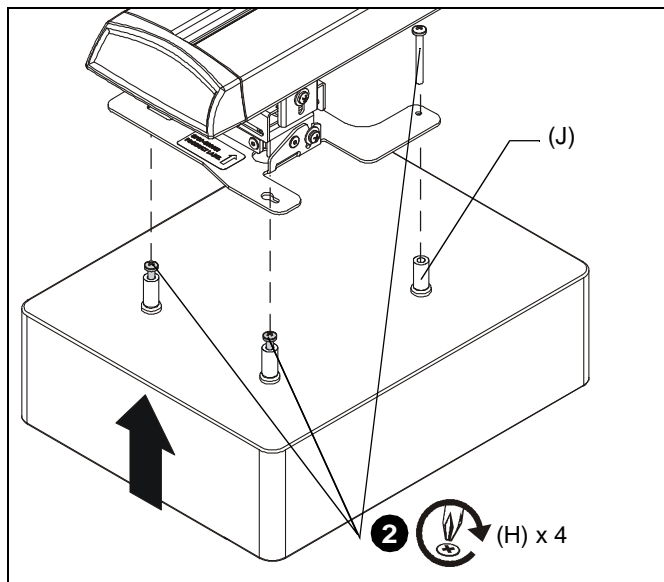

Figure 6
2. Reattach projector to wall mount projector interface bracket using four M4 x 35mm Phillips screws (H) and four spacers (J). (See Figure 6)